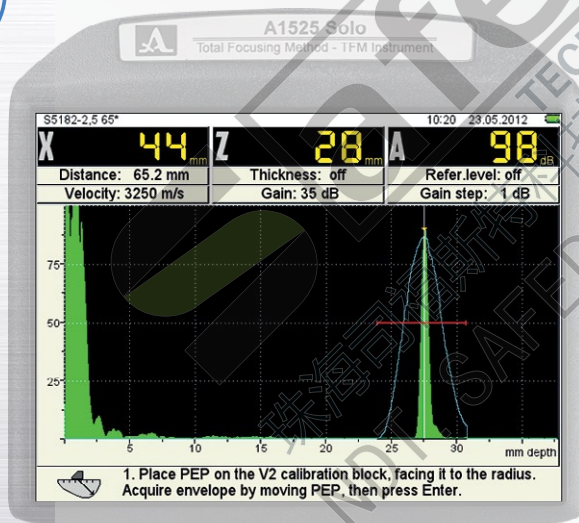

FIGURE 27
- 3) Follow the directions displayed on the screens shown in Figures 27, 28, and 29). Upon accepting the results, the instrument is calibrated.